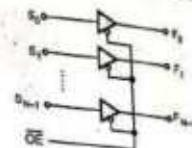

Fig. 7.13.3 Output buffers
- The Fig. 7.13.3 shows the tri-state, TTL compatible output buffer.